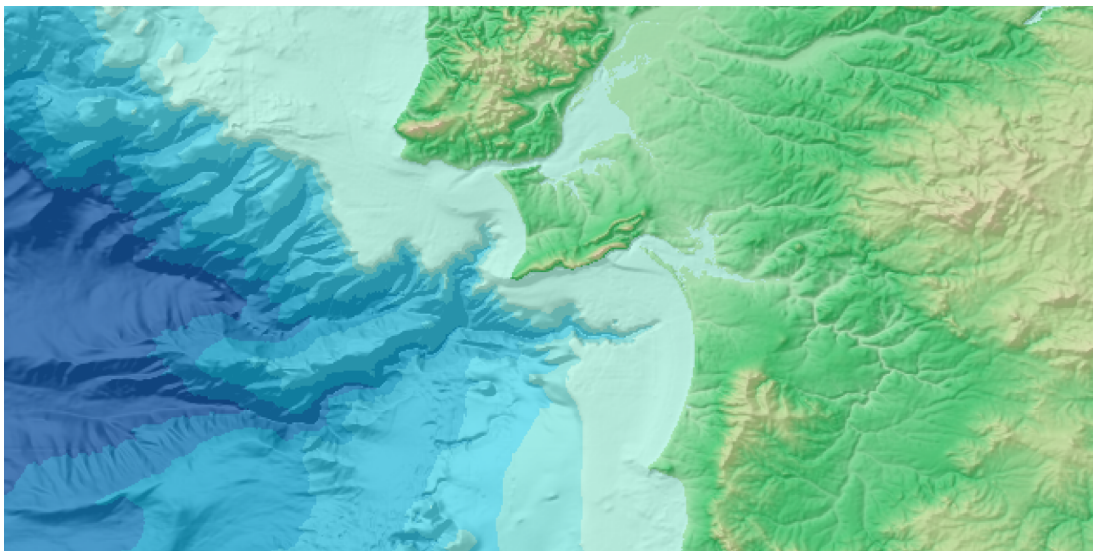

Figure 53: Example of shallow water bathymetry.
Shallow-water acoustics differ drastically from deep-ocean propagation because the seafloor near continental shelves is highly irregular, characterized by sudden slopes, shallow trenches, and underwater canyons (Fig. 53). These complex geological features trigger massive acoustic backscattering, constant reverberation, and severe bottom attenuation. Furthermore, because the surface and the seafloor are physically close together, propagating sound waves interact rapidly with both boundaries, resulting in relentless wave bouncing and complex multi-path interference.
- Figure 53: Example of shallow water bathymetry.